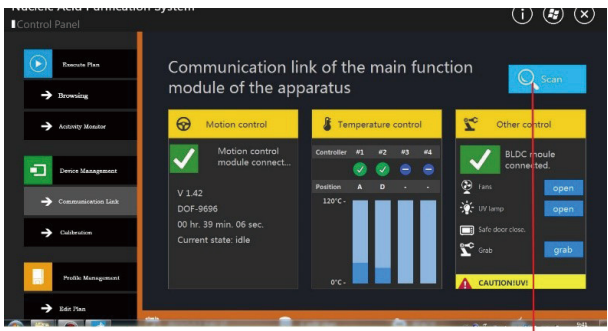

Figure 15. User Interface of Instrument Connection Test
In the function menu area on the left of the main interface, click the "Communication Link" menu item, and the central operation interface area of the main interface presents the instrument connection test interface to the user, as shown in Figure 15. The instrument connection test interface provides operators with connectivity tests of three module units: instrument motion control module, temperature control module and BLDC module. In addition, the equipment connection test interface also provides operators with functional tests of UV disinfection light, aerosol removal fan, manipulator and safety door status. As for whether each control module is working normally and whether the connection is successful, the corresponding area will provide the basis for judgment for the operator in the form of graphics and text information. For the specific meaning of the connection graphics, please refer to Table 10.
① In Figure 15 is the command button of "Module Scanning and Detection". When the operator finds that there is a problem with module connection, click the command button and the instrument will re-perform module scanning and re-test the connectivity of each module.